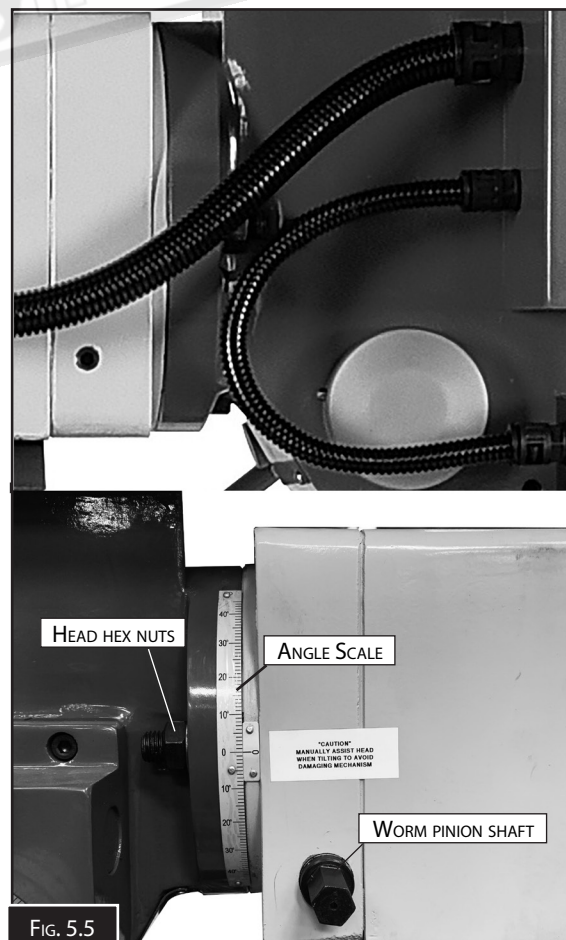

FIG. 5.5
2. Using a spanner, loosen anticlockwise the 3 hexagon nuts located at the rear of head end of the overarm as shown in Fig.5.5
Note: Use the angle scale shown in Fig. 5.5 as a guide for setting tilt angle. For an accurate angle the use of a protractor will be required.